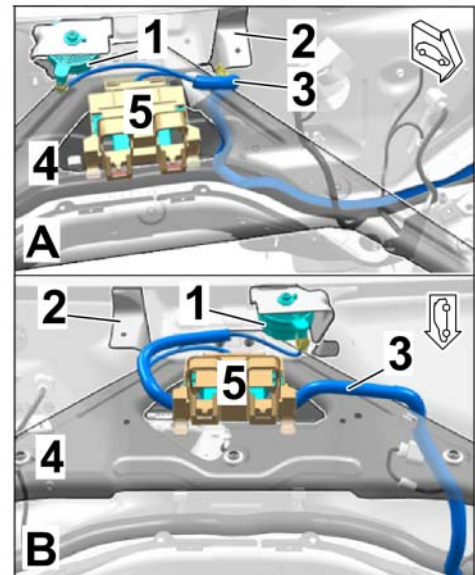

Figure 14
2.2.3 Secure the engine noise pulse sender in the bulkhead holder (plenum panel) using an M6 hexagon nut (1 x) (⇒ *Figure 14*)